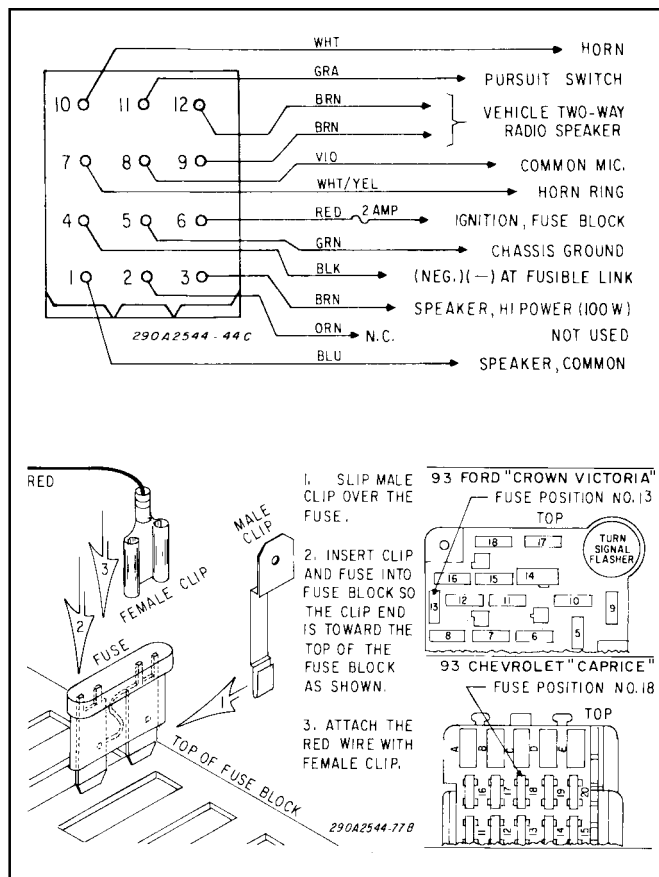

Figure 3-8. Interface/Relay Unit Power Cable and Fuse Clip Adapter Installation.
The unit is designed to operate with one 11-ohm impedance (100W) speaker or two 11 ohm impedance (100W) speakers connected in parallel and in phase. On Federal speakers, this can be accomplished by connecting the two speaker leads marked "1" to the SPEAKER COMMON power cable lead and the two speaker leads marked "2" to the SPEAKER HI power cable leads. See figure 3-8.
Connect the speaker leads (18 gauge wire) as shown in figure 3-8.
See figure 3-8. To allow incoming radio messages to be rebroadcast over the outside speak-
c. See figure 3-8. Connect the other side of the switch to the power cable’s gray wire using #18AWG or larger wire.
6. Connection to Power Source (see figure 3-8).
Route the red (+) power cable lead to the fuse block (see table 3-1) or user-supplied switch. When the red (+) power cable lead is routed to the fuse block, install the supplied fuse clip adapter as follows (see figure 3-8):